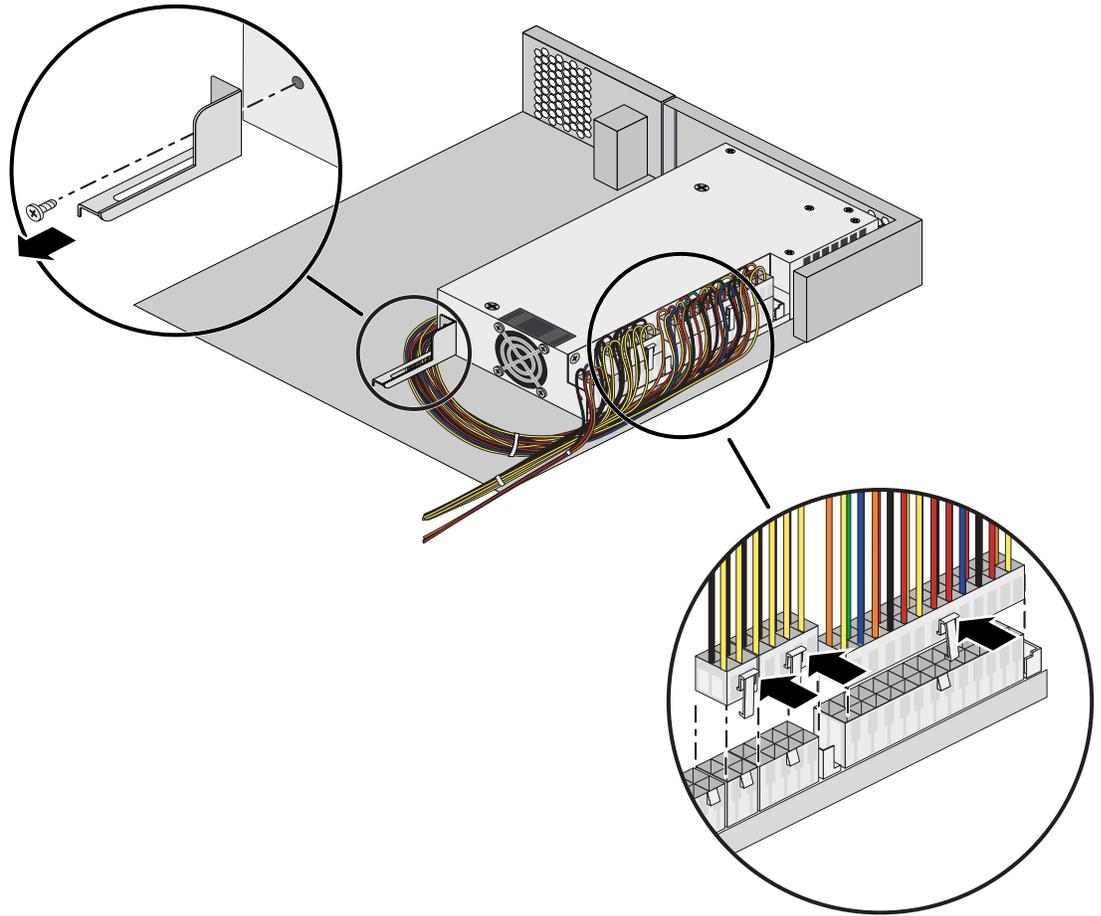

Figure 4-10 Removing the 450-Watt Non-Redundant Power Supply
3. Reach in and undo the small, medium and large power connector cables on the outer side of the power supply, see Figure 4-10 on page 39. Note their locations for re-installation purposes.
5. Undo the single bracket screw near the fan at the “front” of the supply, shown in Figure 4-10. Set all screws carefully aside for use during the re-installation process.
3. Reconnect the small, medium and large power cable connectors to the outer side of the power supply, see Figure 4-10 on page 39.
4. Attach the rear system power cord to the supply and ensure the rocker switch is set to the (I) on position. The system fans should start up and pushing the power button on the front of the chassis should boot the system.